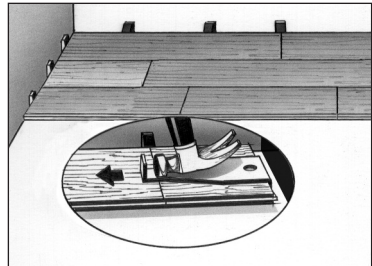

Fig. 15
7. Use a pull bar when necessary to ensure joints are tight (Fig. 15).